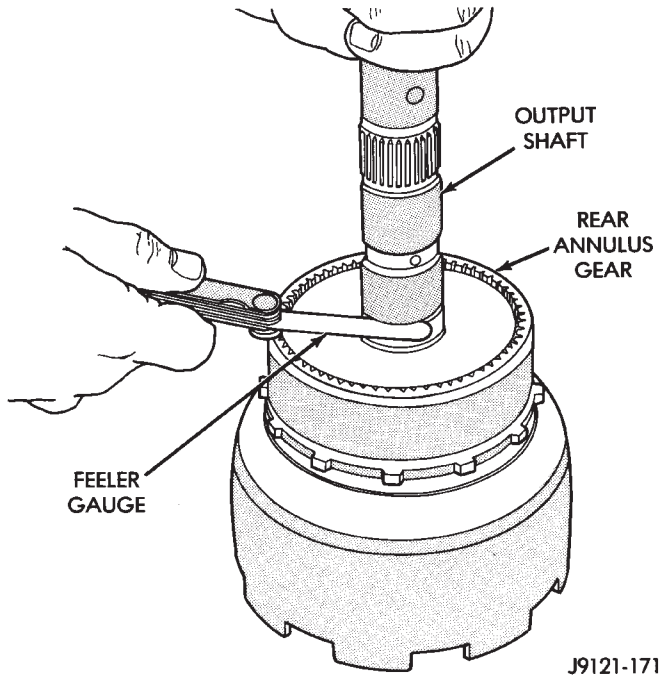

Fig. 191 Checking Planetary Geartrain End Play
(23) Check planetary geartrain end play with feeler gauge (Fig. 191). Gauge goes between shoulder on output shaft and end of rear annulus support.
(24) Geartrain end play should be 0.12 to 1.22 mm (0.005 to 0.048 in.). If end play is incorrect, snap ring